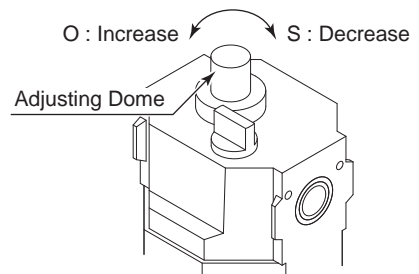

Fig. 5
(3) Adjustment of Oil Drip Rate (Fig. 5)
- ① Set the air pressure to the air motors recommended maximum air pressure.
- ② Adjust the Oil Drip Rate to the recommended volume which is 1 to 3 drops / min. (If using the Air Turbine Spindle, adjust the Oil Drip Rate to the recommended volume which is 1 drops / min.)